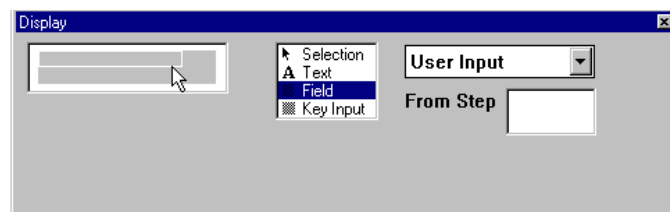

Figure 2-49 Field Marker Area Defined
3. Click and drag a field rectangle in the display area where you want the data to appear (Figure 2-49).